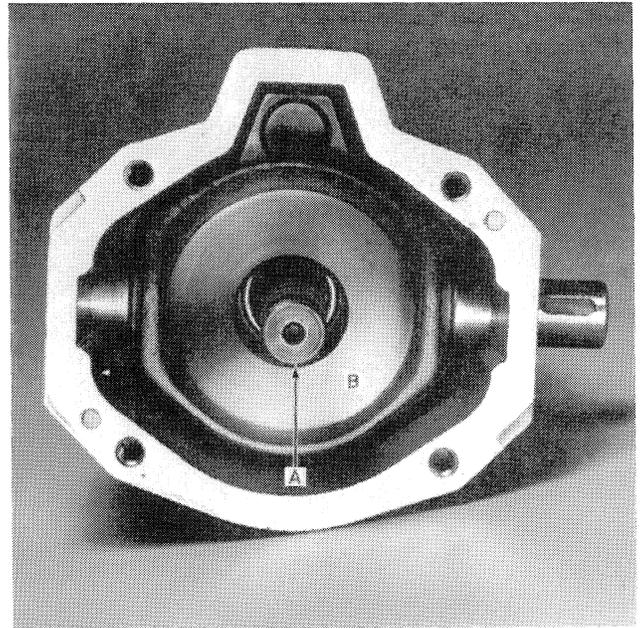

FIGURE 4-9
8. The pump shaft is shown at A, Figure 4-9. To remove the pump shaft:
9. To remove cam plate, B, Figure 4-9: